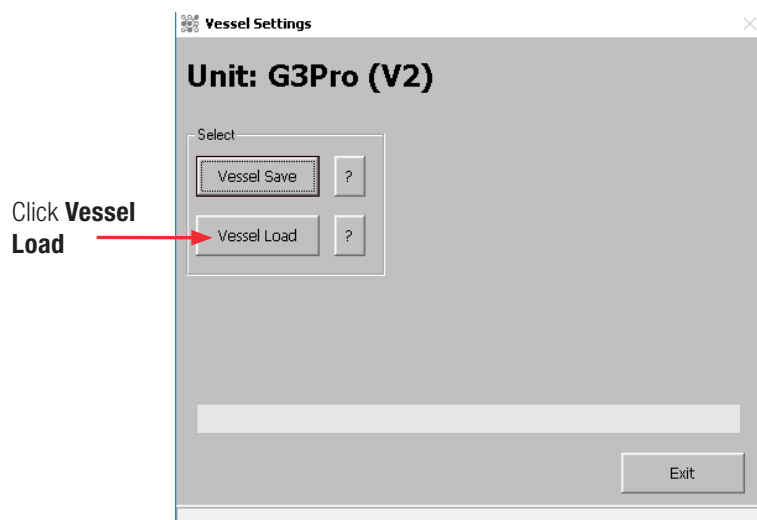

Figure 4.1. "Vessel Load" option on Vessel Settings.
1. From the Configuration page, open "Vessel Settings Management." Then click **Vessel Load** (Figure 4.1).